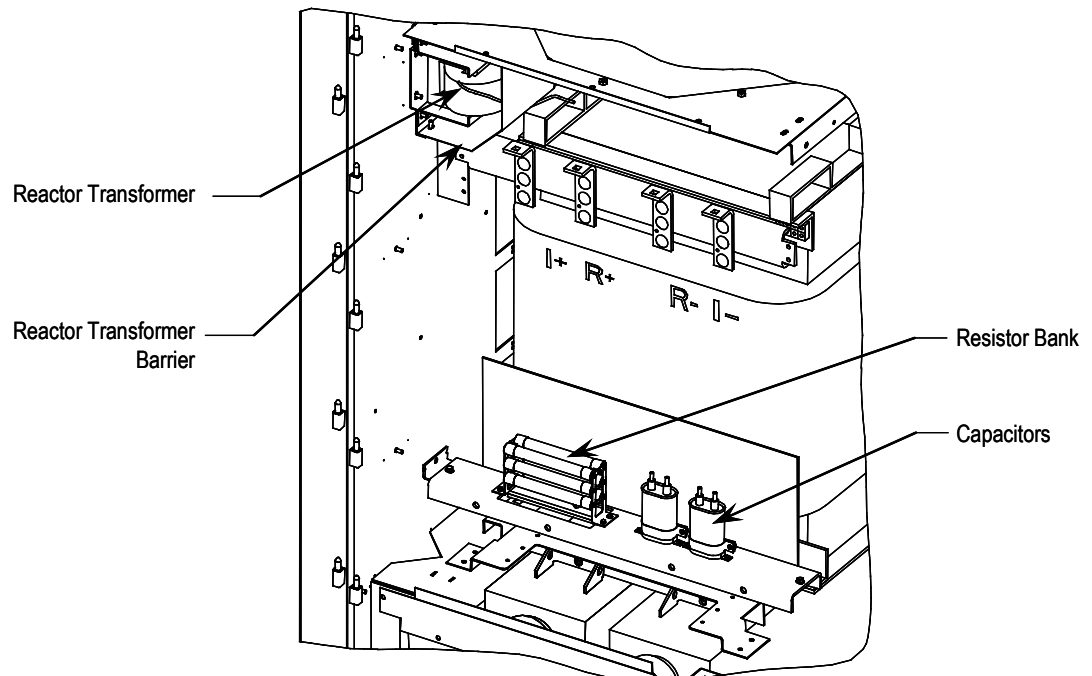

Figure 6.44 – Ground Filter Component Replacement
4. Loosen and remove mounting screws as indicated in Figure 6.44 and remove the failed component.